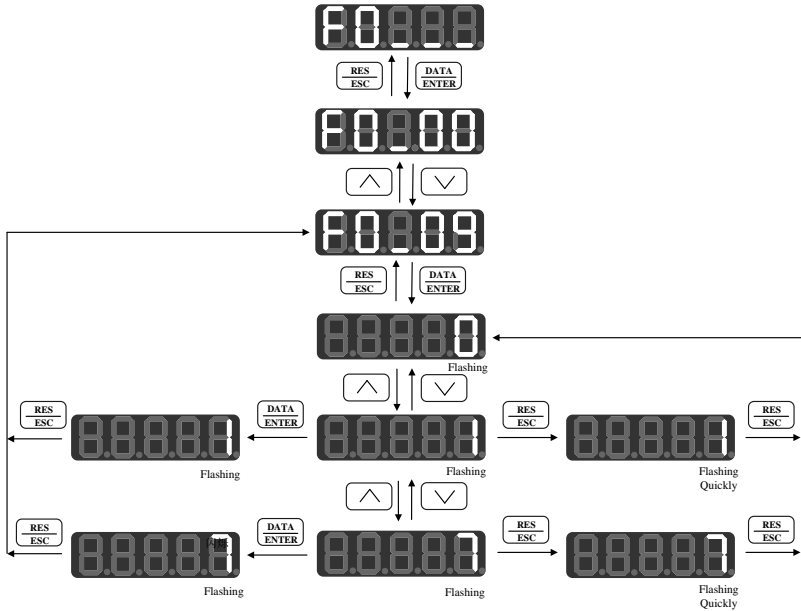

Figure 4-6 Procedures of Saving and Resetting Parameter
- Take F0-09 for instance, its original parameter value is 0, save or reset the parameter as per the procedures shown in Figure 4-6.